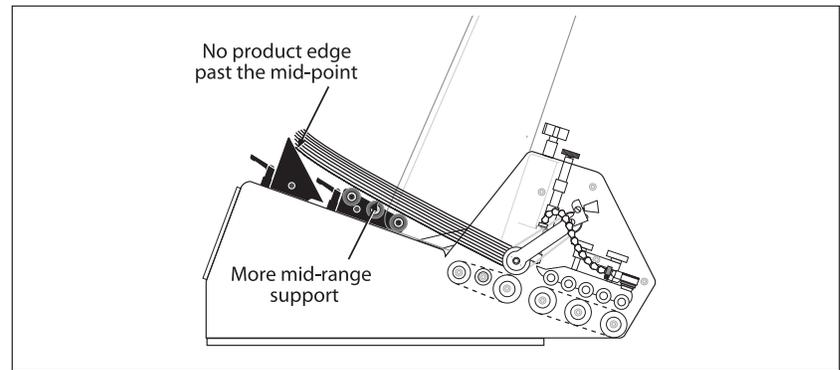

Figure 6-4. Separate Triangle and Low-Profile Wedge Setup
**Setup guidelines:** Adjust the triangle wedge the same way you would the combined triangle/low-profile wedge assembly (see previous page). Set the low-profile wedge relative to the triangle wedge so it lifts the bottom of the stack off the table top to eliminate friction and create body. Again, make sure edges of product do not touch or overhang tips of triangle wedges. See Figure 6-4.